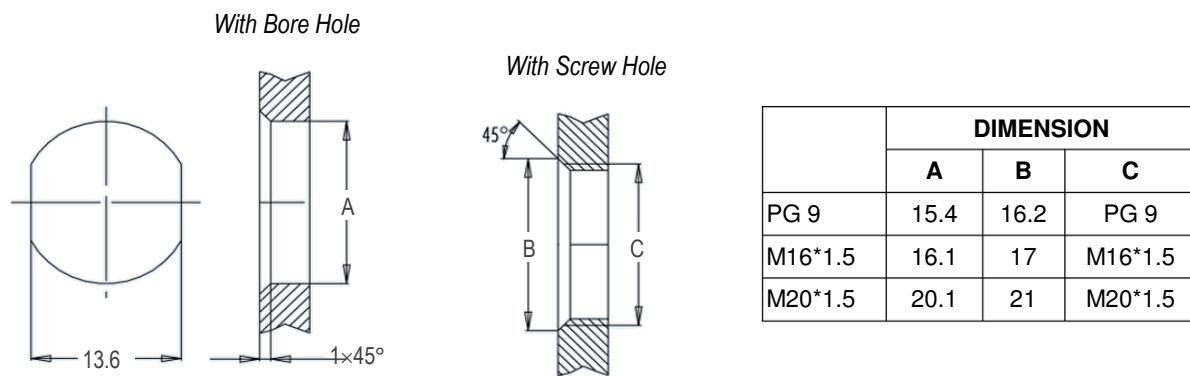

Figure 4
The recommended panel cutouts are given in Figure 4.
3.5.1.1 There are two rotational orientations for mounting the connector to the panel: top/bottom and left/right. This orientation must be chosen before creating the cutout in the panel. Figure 4